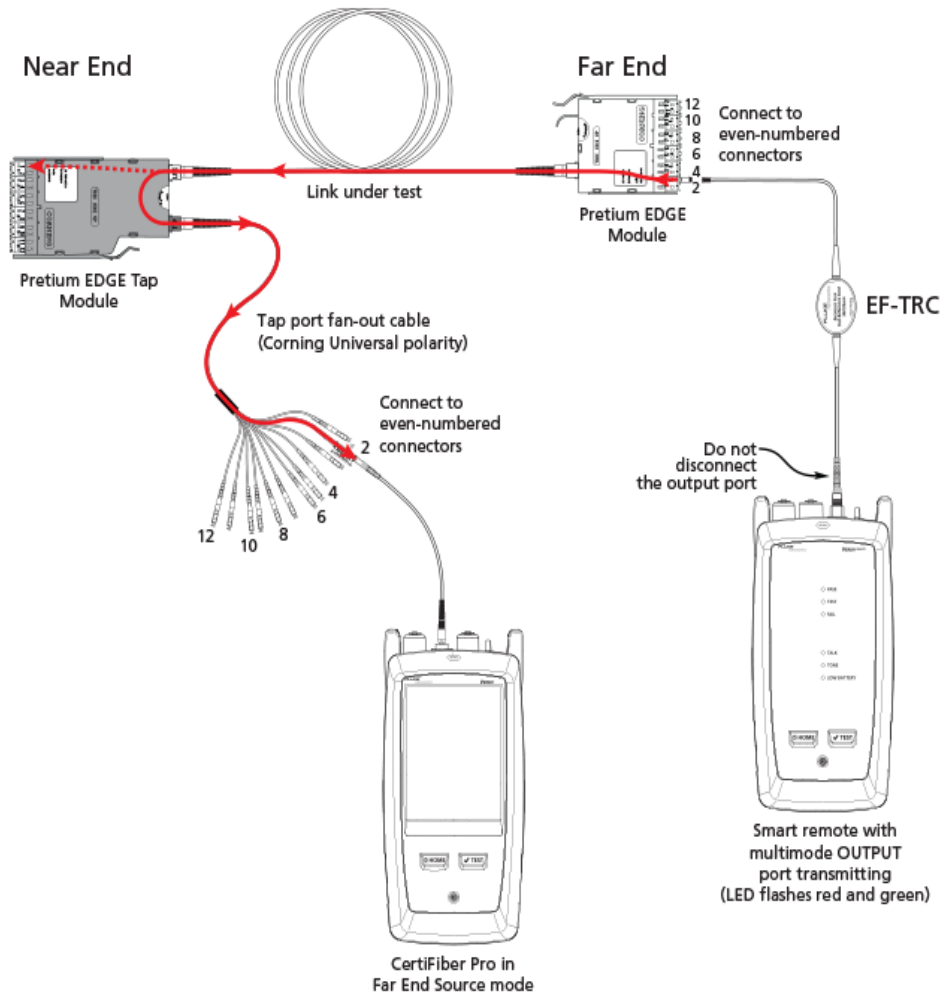
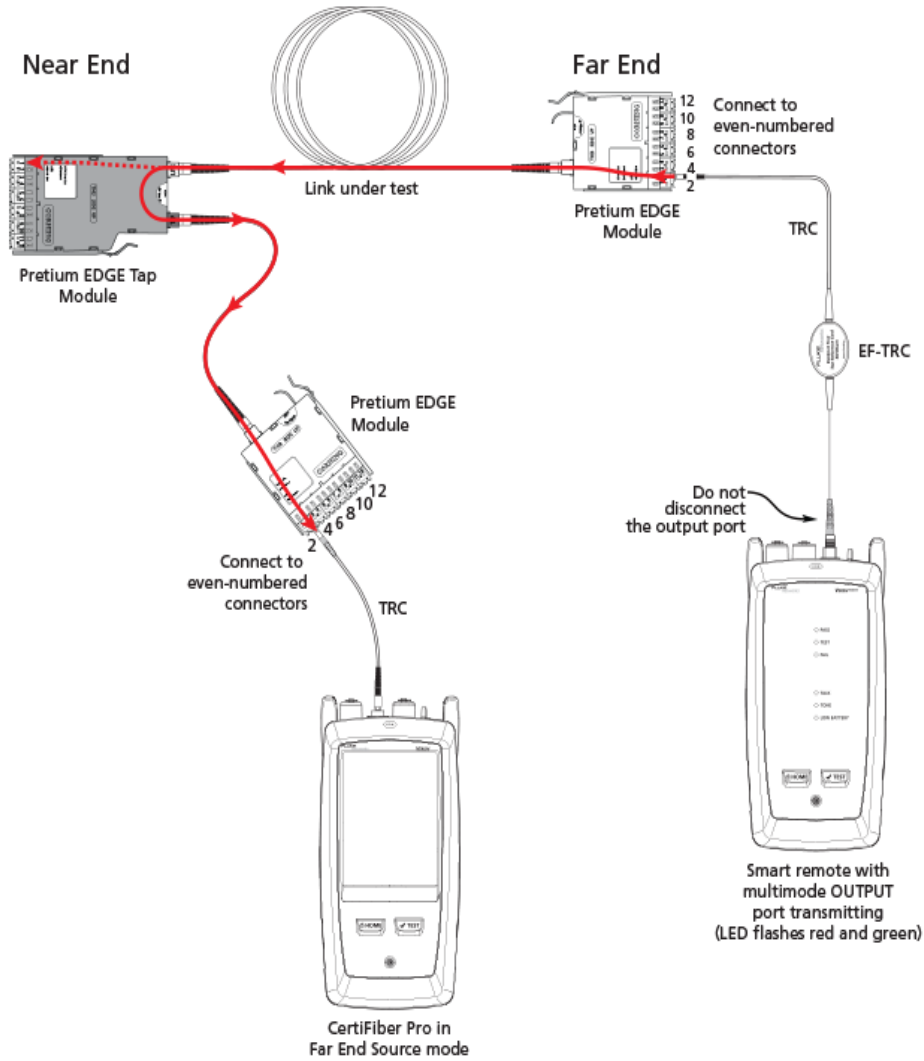

Figure 9. Connections for Testing the Tap Port Links from the Far End through a Fan-Out Cable
Figure 10. Connections for Testing the Tap Port Links from the Far End through an EDGE Module
3. Make the connections shown in Figure 9 if you will do the test through a fan-out cable, or in Figure 10 if you will do the test through a third EDGE module.